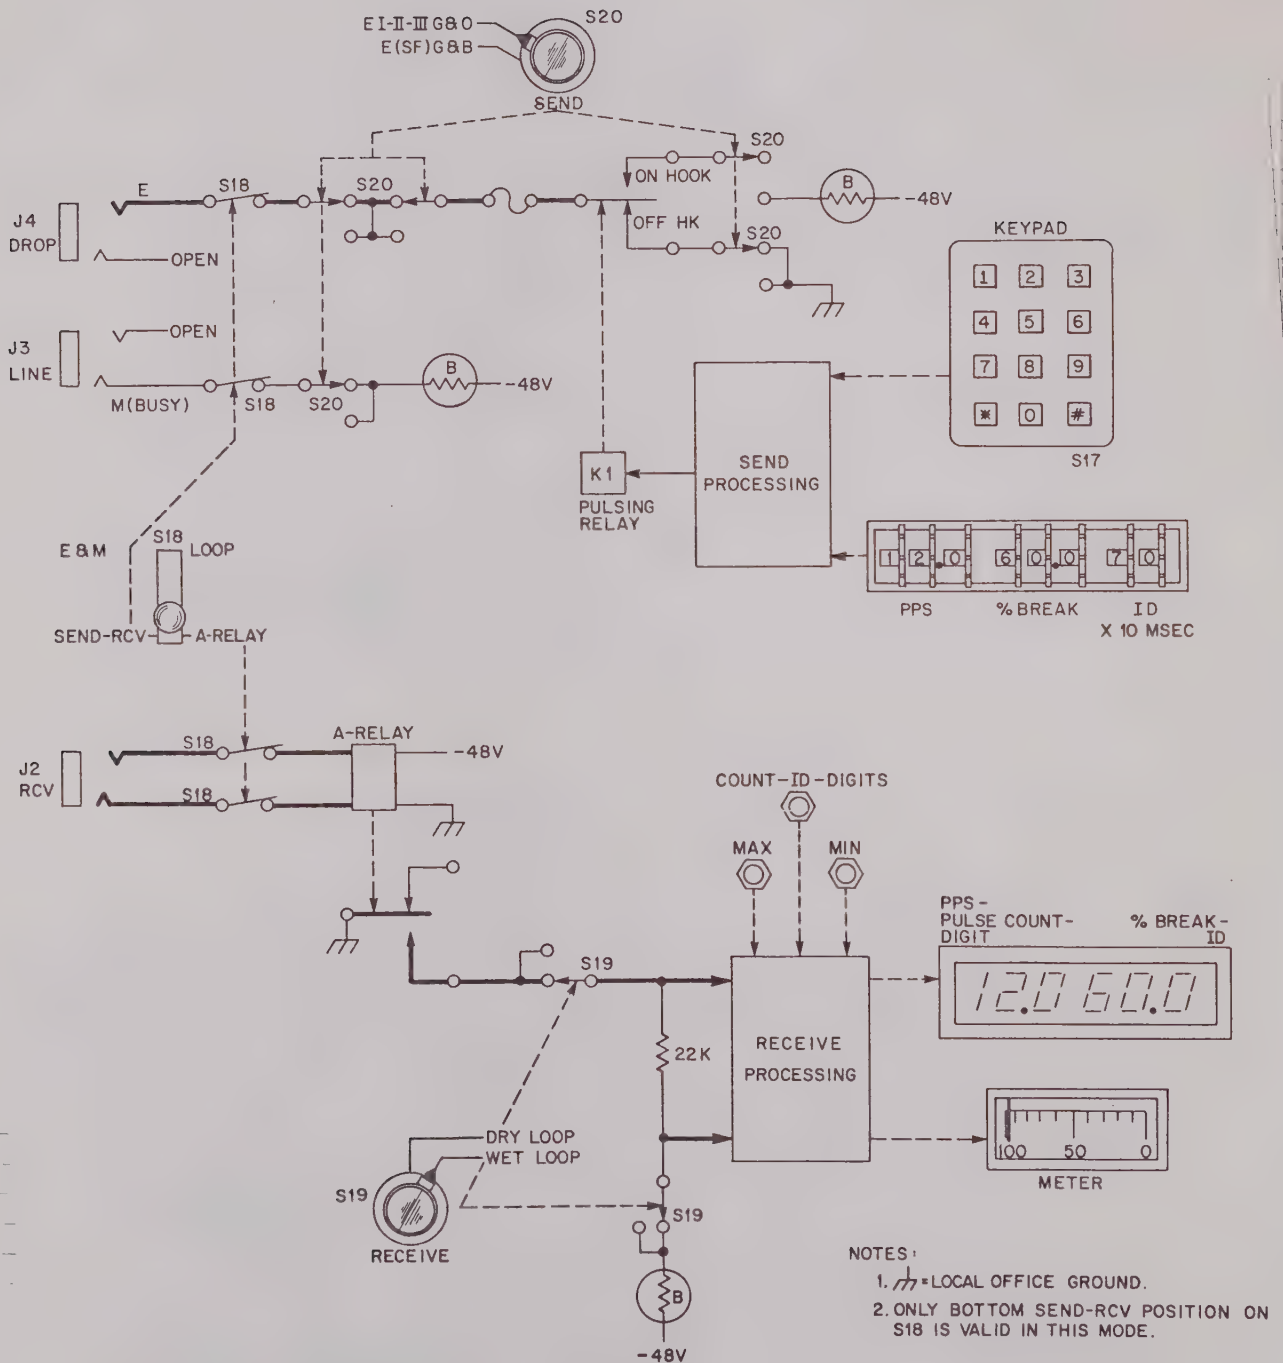

Figure 4—19. Sending On The E Lead While Receiving Dry Or Wet Loop Through The A-Relay
4.79 Perform the following steps to check out the SF send and receive sections. See Figure 4—22.